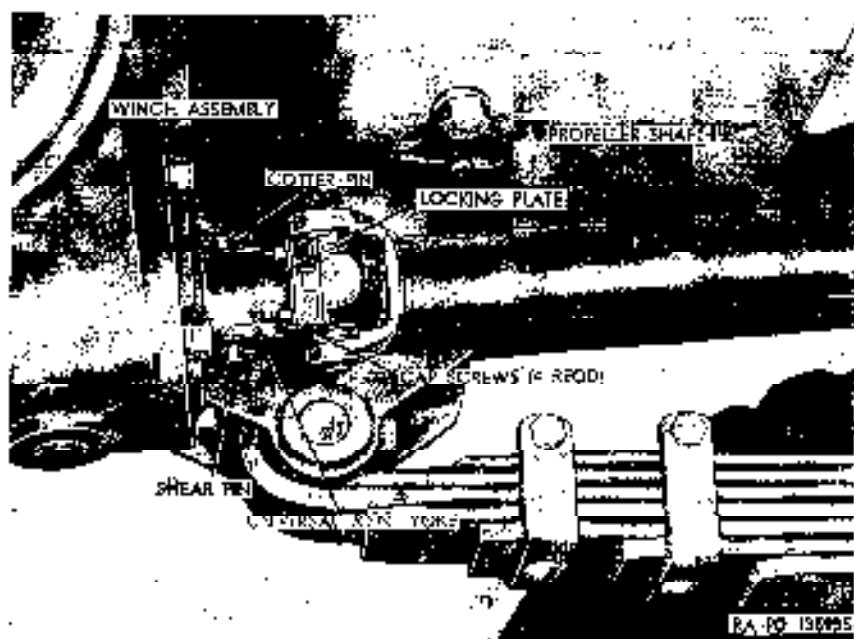

Figure 272. Bottom view of front winch and propeller shaft.
- (2) *Winch drive.* Power for operating the winch is supplied by the truck engine through a power-take-off (par. 208a(2) or (3)) which is connected to the winch by a propeller shaft (fig. 272). The propeller shaft is secured to the winch drive shaft by a shear pin which prevents damage to the winch resulting from overloading.